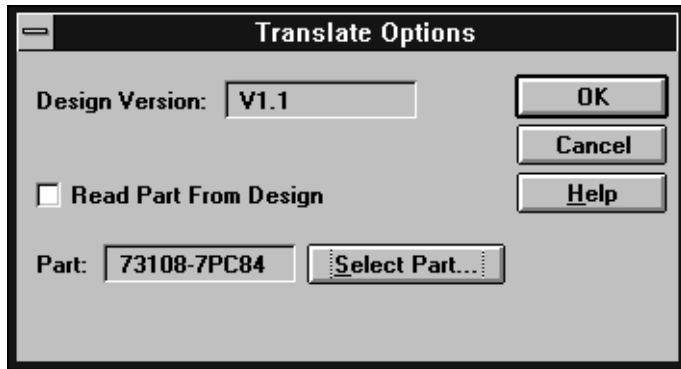

Figure 2-7 Import Design Translation Flow Window
5. After you have specified the project name, device family, and working directory, you can input (translate) your logic design by clicking on the Translate button. You will see the Translate Options dialog window as shown in Figure 2-7.